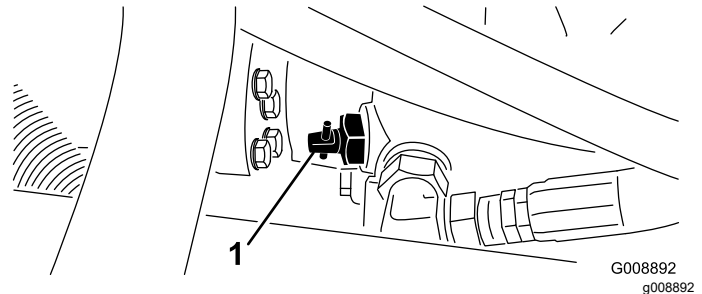

Figure 41
1. Locate the bypass valve on the pump (Figure 41) and rotate it 90°.